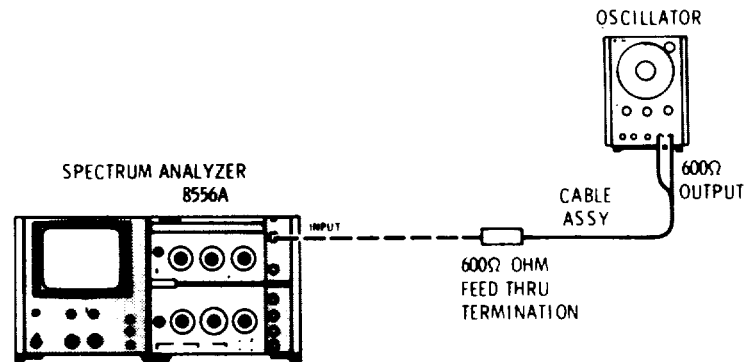

Figure 4-11. Noise Sidebands Test Setup
1. Connect equipment as shown in Figure 4-11, connecting the Oscillator to analyzer INPUT through the 600 Ohm Feed Thru Termination.